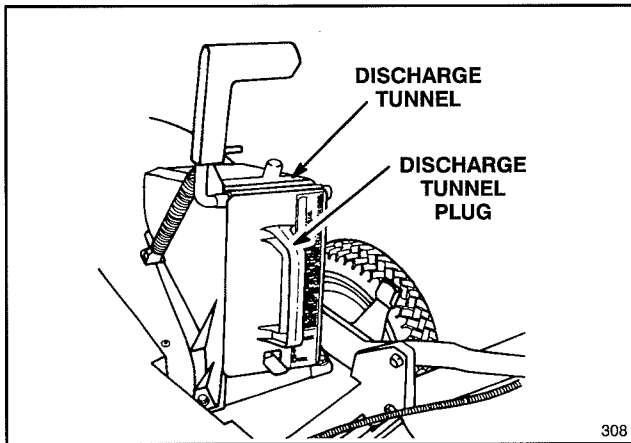

Figure 28
1. Rear Bagging Kit (Model 59174 for self-propelled models, Model 59179 for hand push models)—Install discharge tunnel and rear mounting grass bag to convert Recycler® II Super Pro® mower to a rear bagging mower (Fig. 28). Includes discharge tunnel plug.